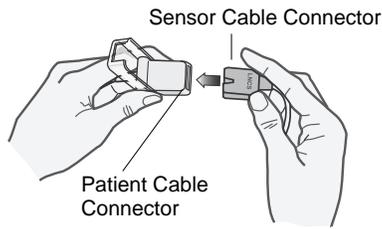

Figure 5
cable's male connector all the way into the patient cable connector (see Figure 5).
6. Lift the clear plastic protective cover from the female end of the patient cable, then plug the sensor cable's male connector all the way into the patient cable connector (see Figure 5).